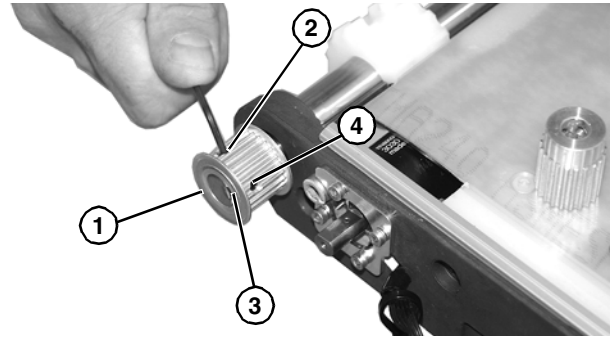

Figure 57
2. Install driven pulley (Figure 57, item 1) onto conveyor shaft until flush with spindle end. Line up longer set screw (Figure 57, item 2) on pulley over keyway (Figure 57, item 3) of shaft. Tighten set screw (Figure 57, item 2) and set screw (Figure 57, item 4) to 18 in-lb (7 Nm).